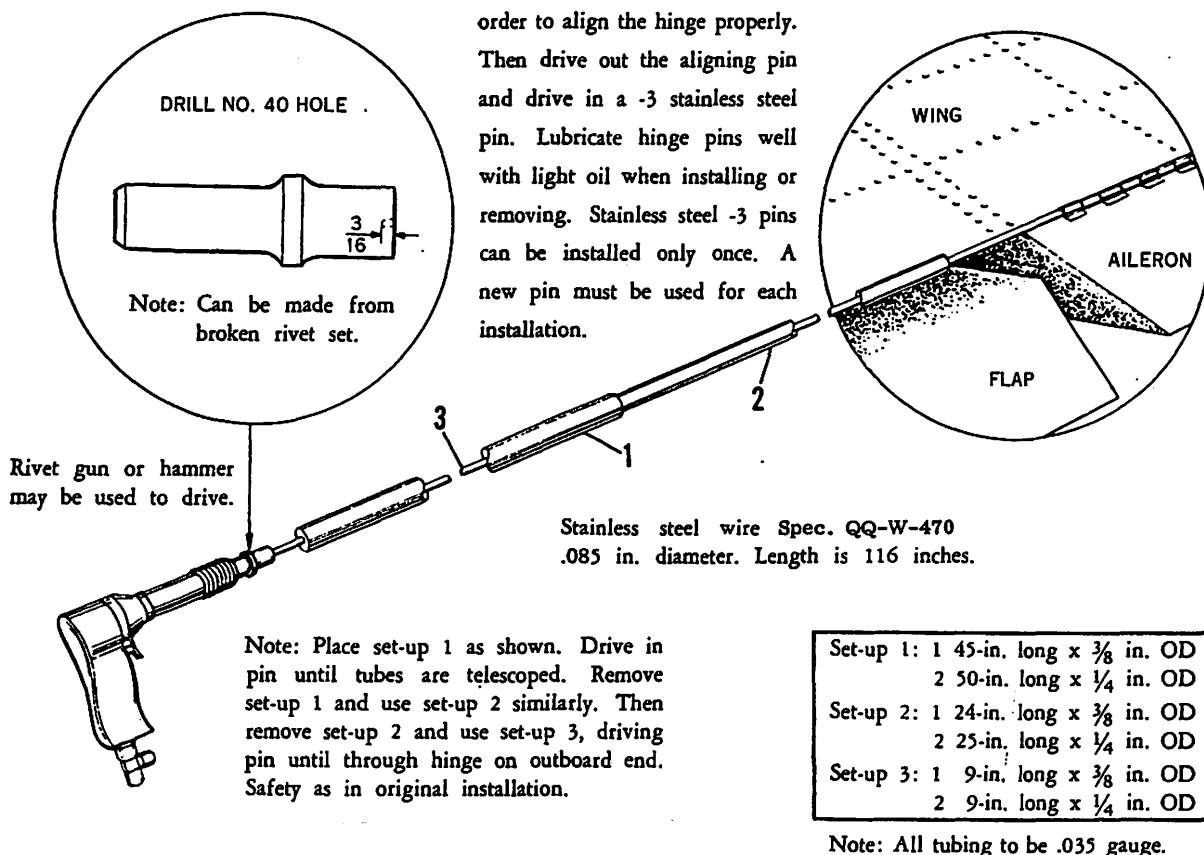

Figure 2-20. Aileron Hinge Wire Installation
- b. Drive in aileron hinge wire using a setup as shown in figure 2-20.